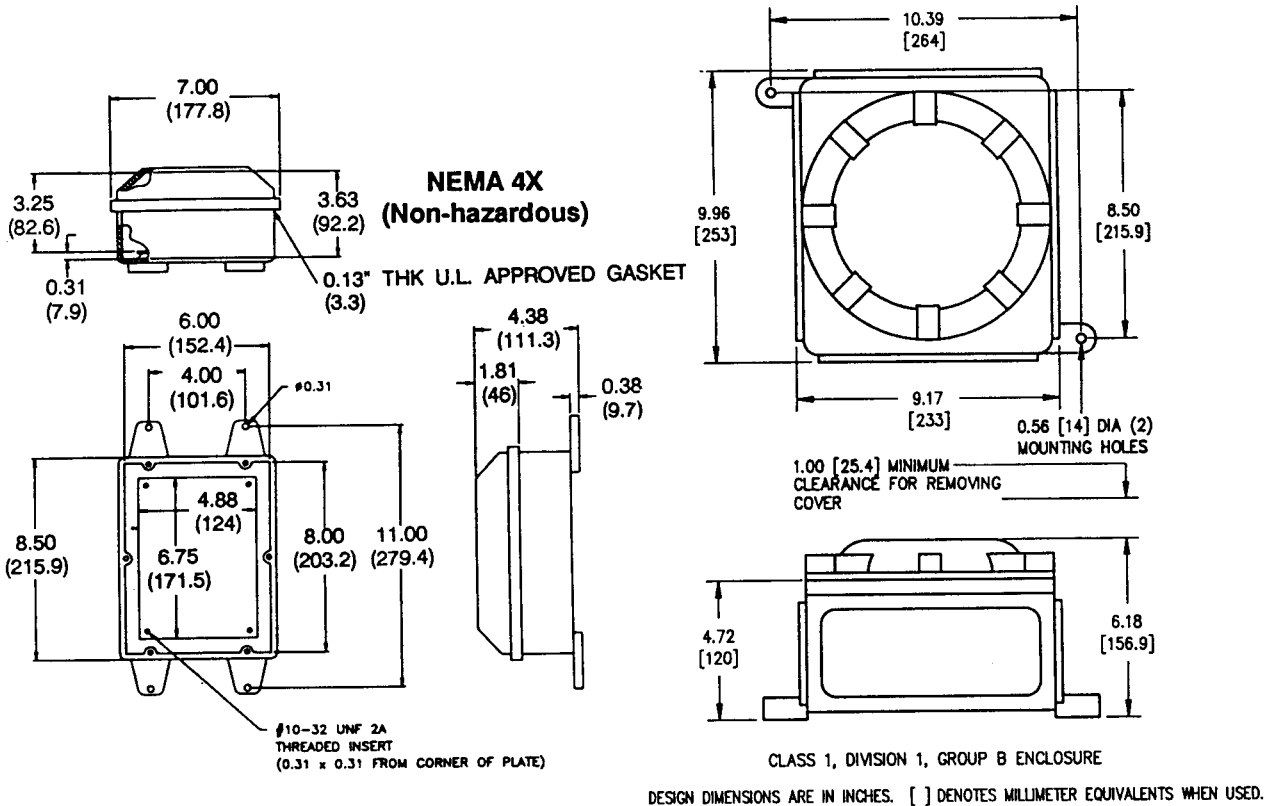

Figure 2-3. Outline of Heater Power Supply
a. Mechanical Installation. The outline drawing of the heater power supply enclosure, Figure 2-3, shows mounting centers and clearances. The NEMA 4X enclosure is designed to be mounted on a wall or bulkhead. The heater power supply should be installed no further than 150 feet (45 m) from the probe. The heater power supply must be located in a location free from significant ambient temperature changes and electrical noise. Ambient temperature must be between -20° to 140°F (-30° to 60°C).